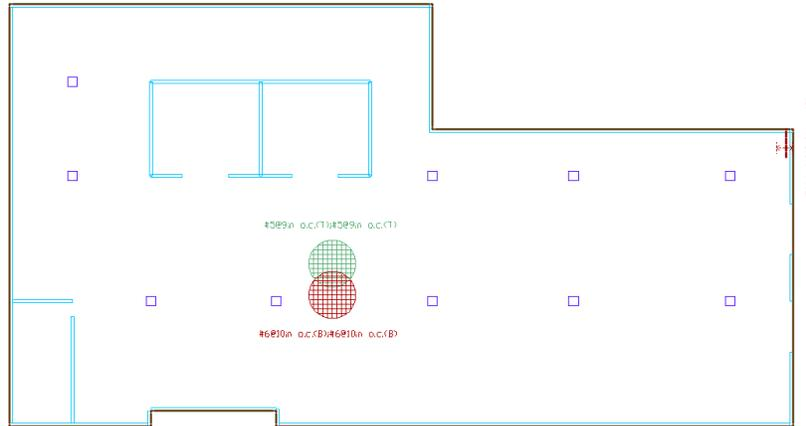

FIGURE 6.8-14 REBAR IN EXCESS OF BASE REBAR
- After introducing new base reinforcing, the slab needs the design sections to be redesigned and the reinforcement layout must be generated again. The program will produce a new rebar drawing and display any additional rebar to the base reinforcing where required as shown in **Figure 6.8-14**.